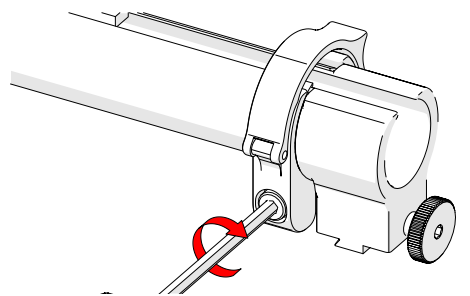

Fig. 83 - Tighten clamp screw
4. Tighten the clamp screw (*Fig. 83*).